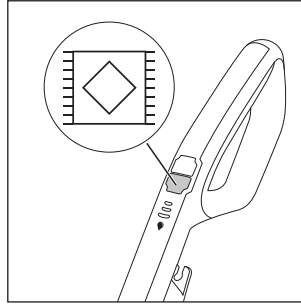

Fig. 17
- ◆ Press the carpet switch  **13** to switch the appliance on (see fig. 17). The LED on the carpet switch  **13** lights up blue.
- When cleaning carpets, if you activate the cleaning solution switch (15), twice as much cleaning solution is applied to the rotary brush (6) as during hard floor cleaning.
- To allow carpets to dry more quickly after cleaning, move the appliance several times over the carpet without holding down the cleaning solution switch (15).
- ◆ Press the carpet switch (13) again to switch the appliance off (see fig. 17).